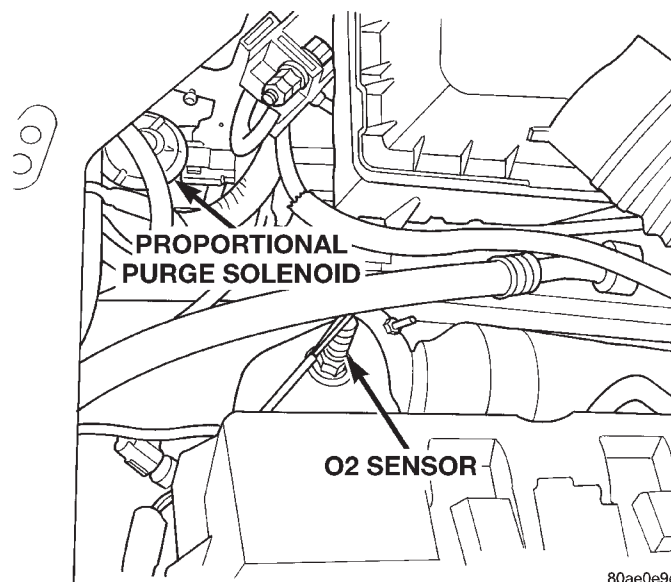
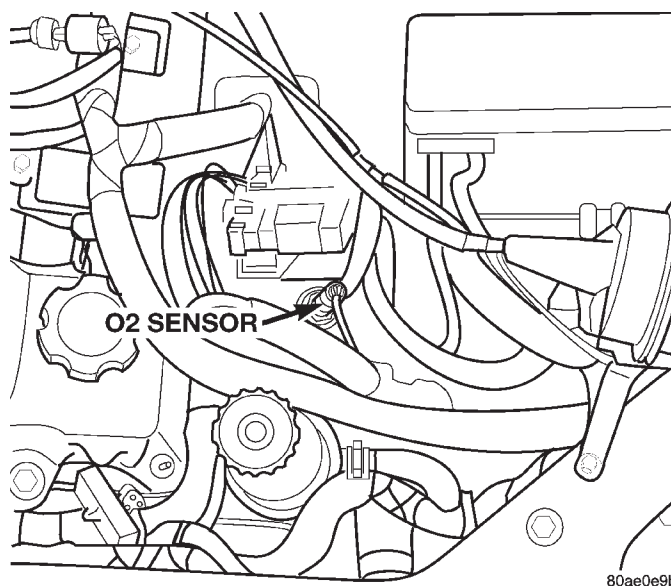

Fig. 42 Upstream Heated Oxygen Sensor
Fig. 43 Upstream Heated Oxygen Sensor
(16) Ensure the electrical connectors are attached to the upstream heated oxygen sensors (Fig. 42) or (Fig. 43).